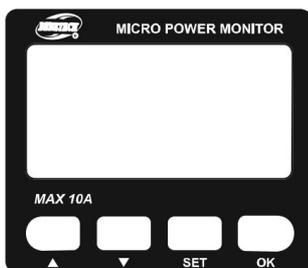

Figure 12
1. There are four keys in total on the product, which is as shown in **Figure 12**.